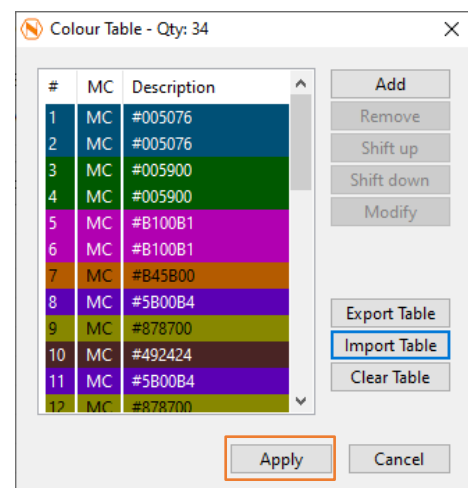

Figure 269
63. The included colors of the selected color table file are imported and listed as shown in Figure 269. Click **Apply**.